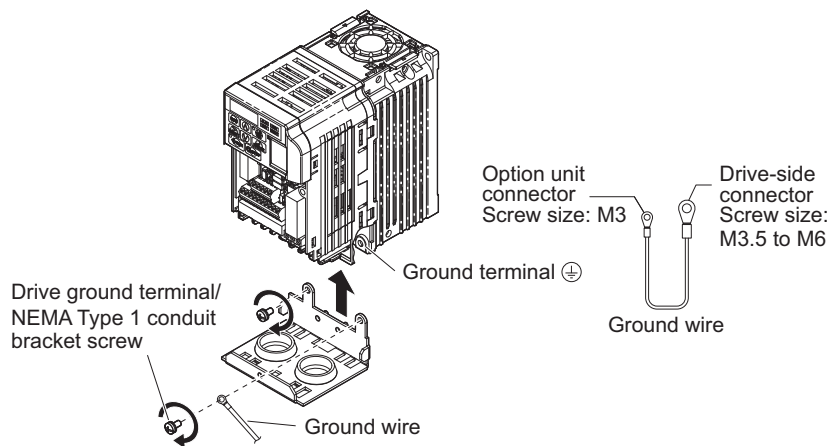

Figure 11 Reattach the NEMA Type 1 Conduit Bracket and Connect the Ground Wire for models CIMR-V□BA0001F to BA0003F, 2A0001F to 2A0006F
- On NEMA Type 1 enclosure models (CIMR-V□BA0001F to BA0003F, 2A0001F to 2A0006F), the screw for the drive ground terminal also acts as one of the screws that attaches the NEMA Type 1 conduit bracket to the drive. Reattach the NEMA Type 1 conduit bracket according to Figure 11 and connect the drive-side of the ground wire to the drive ground terminal.